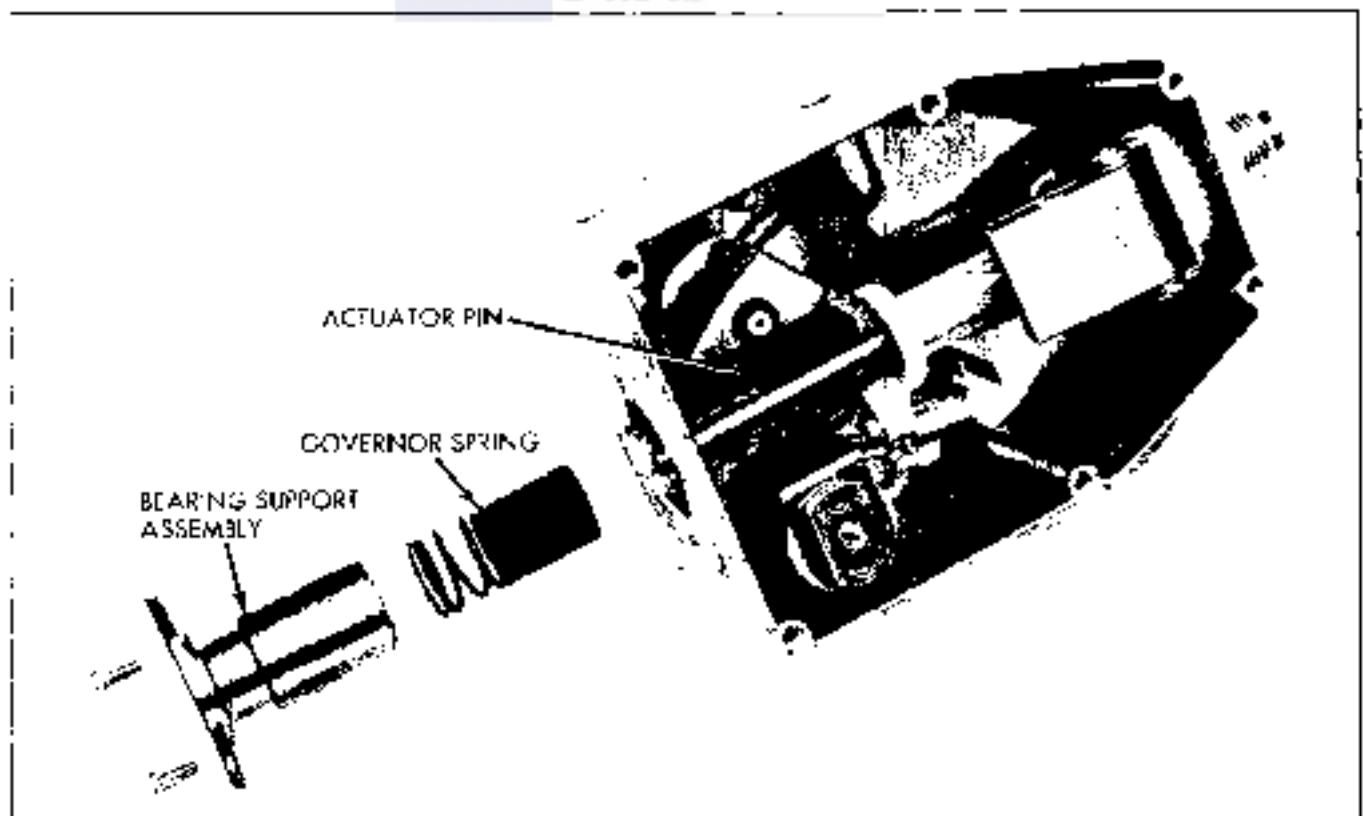
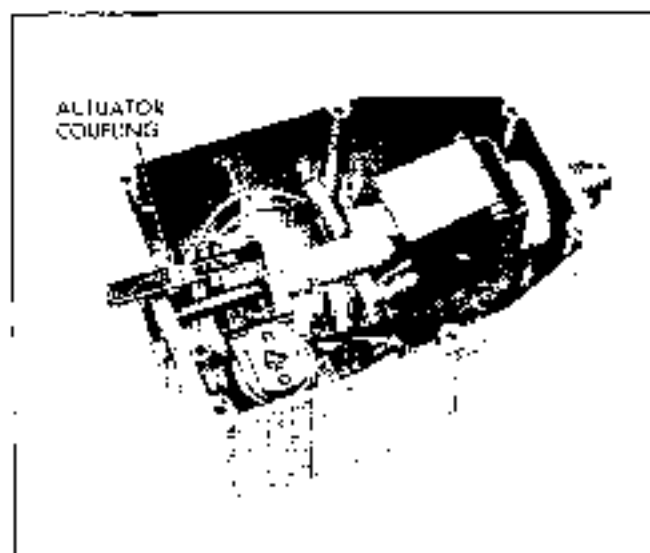

Fig. 15-7 Bearing Support—Removal
Fig. 15-8 Governor Assembly—Removal
2. Remove two screws securing bearing support, rotate support 180° and slide out (Fig. 15-7).
4. Spread governor weights in an up and down position and pry up on actuator coupling with a screwdriver until pin is disengaged from magnet assembly and can be rotated clockwise (Fig. 15-7). Rotate actuator cup 180° and hook the actuator coupling over the top of regulator housing (Fig. 15-8).